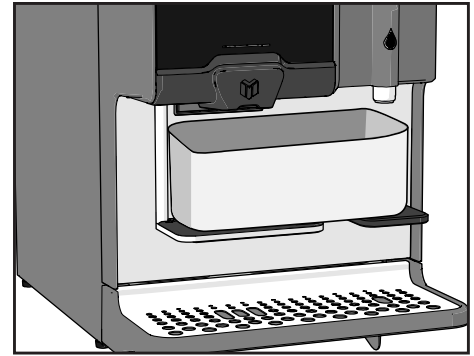

Figure 28.
6. Place a container under the spouts (see Figure 28).